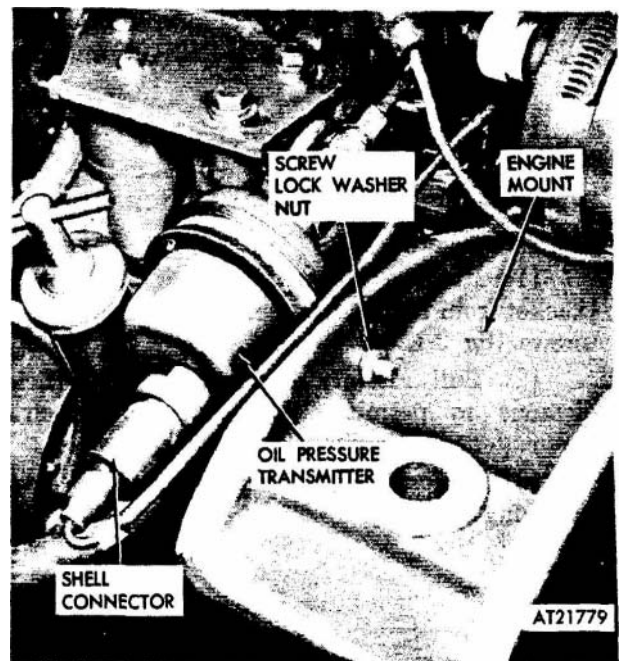

Figure 2-127. Oil pressure transmitter.
- (1) Open and secure engine cover (refer to TM 9-2320-242-10).
- (2) Disconnect electrical connector from oil pressure transmitter (fig 2-127).
- (3) Disconnect oil pressure line by loosening nut on fitting. Cap oil line.
- (4) Remove oil pressure transmitter and clamp from engine mount by removing screw, lock washer, and nut.
- (5) Remove adapter and coupling from transmitter.
- (1) Attach adapter and coupling to oil pressure transmitter (fig 2-127). Coat threads with thread sealant.
- (2) Attach clamp and transmitter to engine mount with screw, lock washer, and nut.
- (3) Connect oil pressure line to oil pressure transmitter.
(4) Connect electrical connector to oil pressure transmitter.
(5) Start engine and check for oil pressure indication (refer to TM 9-2320-242-10) and oil leaks. Stop engine.
(6) Close and secure engine cover (refer to TM 9-2320-242-10).